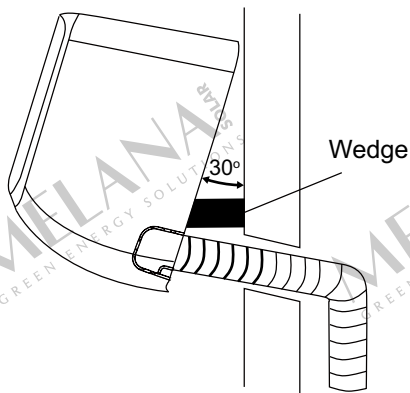

Fig. 4.13
2. Use a bracket or wedge to prop up the unit, giving you enough room to connect the refrigerant piping, signal cable, and drain hose. Refer to **Fig. 4.13** for an example.